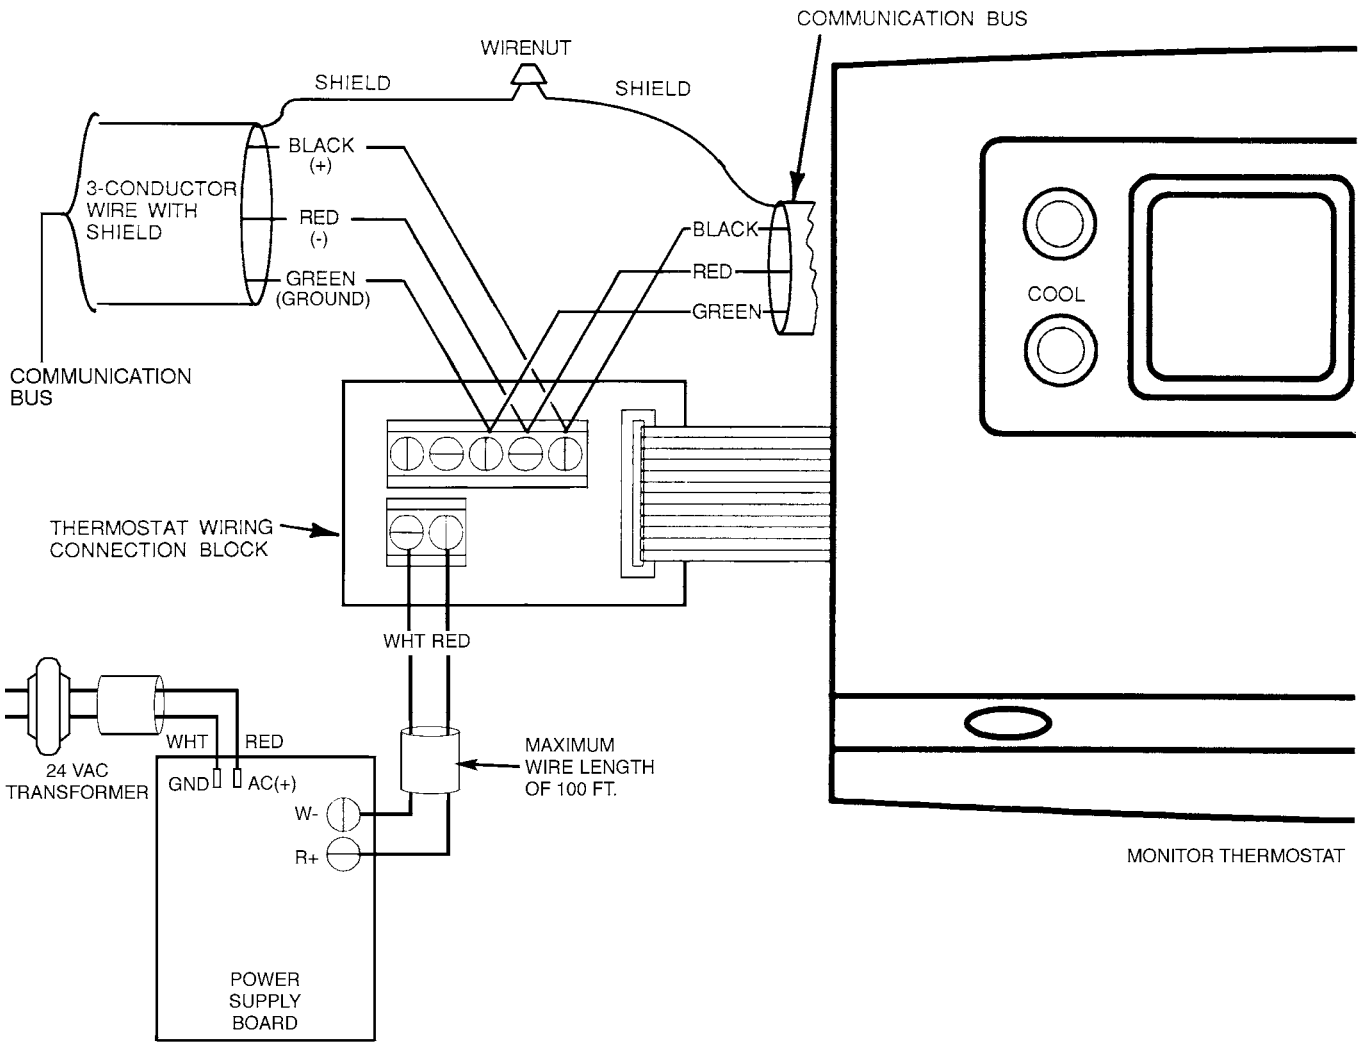

Fig. 4 — Monitor Thermostat Wiring Connections
1. Connect the communication bus and power wiring to the wiring connection block of the thermostat. See Fig. 4.